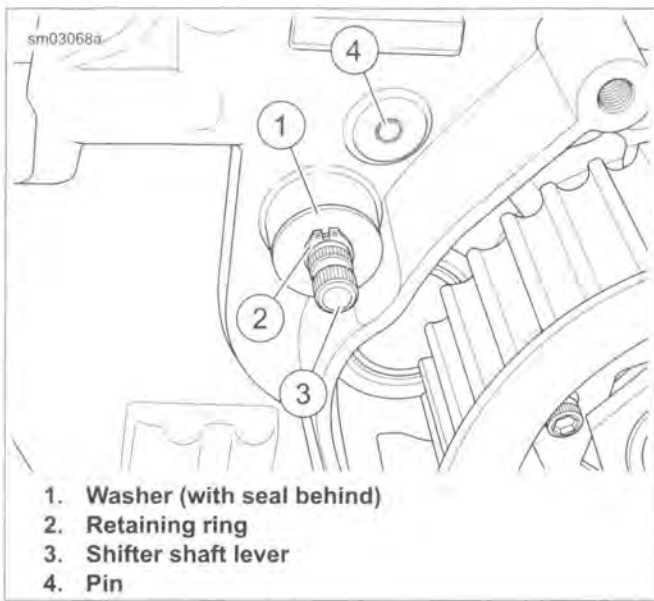

Figure 6-57. Shifter Shaft Lever, Exterior View
5. See Figure 6-57. Insert the assembly into the transmission case.
8. See Figure 6-57. Install washer (1) and a new retaining ring (2).